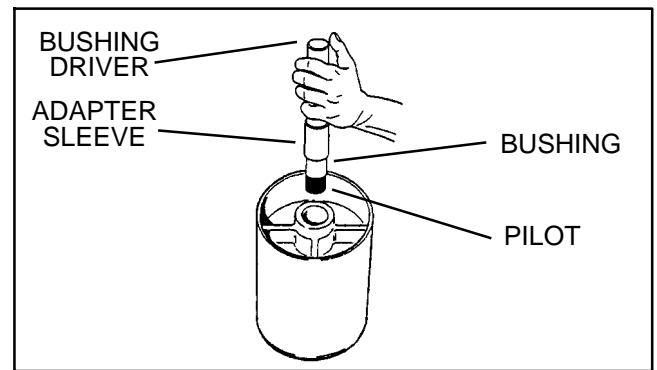

Figure 30
5. Install inner bushing into drum (Fig. 30).